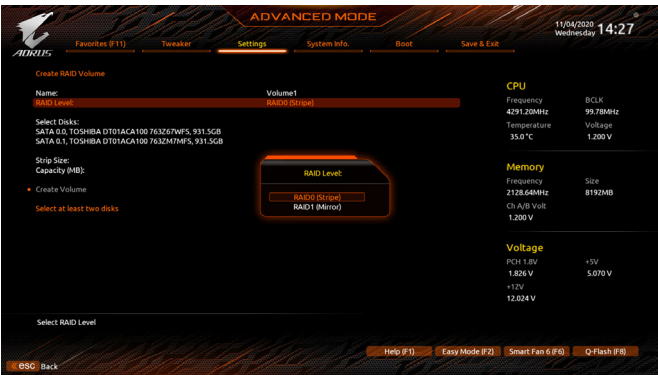

Figure 3
On the **Intel(R) Rapid Storage Technology** menu, press <Enter> on **Create RAID Volume** to enter the **Create RAID Volume** screen. Enter a volume name with 1~16 letters (letters cannot be special characters) under the **Name** item and press <Enter>. Then, select a RAID level (Figure 3). RAID levels supported include RAID 0, RAID 1, RAID 10, and RAID 5 (the selections available depend on the number of the hard drives being installed). Next, use the down arrow key to move to **Select Disks**.